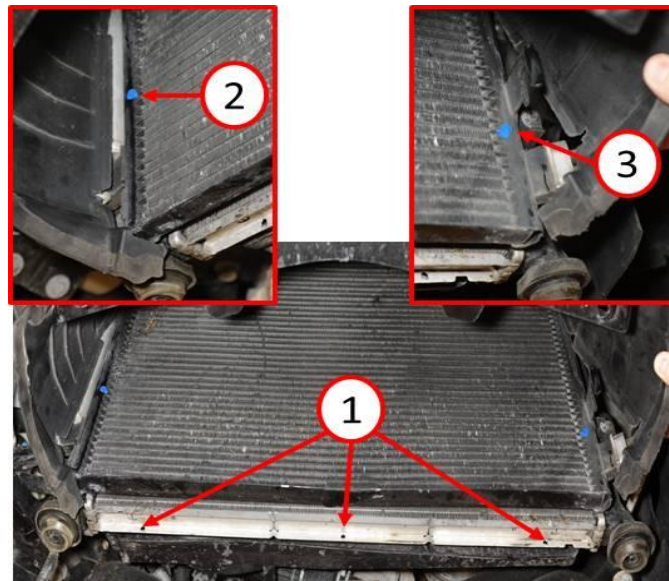

Fig. 2 Condensor Preperation
6. Carefully remove the lower plastic shroud that covers the bottom gap between the radiator and condenser by using a pick to pull the cover hole away from the retaining tabs (1) along the edge (Fig. 2).
7. Viewing the condenser from the front of the vehicle count 12 rows up the passenger side of the condenser from the bottom of the condenser core and mark (2) the location of the 12th row (Fig. 2).
8. Measure out from the passenger side edge (2) of the condenser core 2-1/8"(54mm) and mark the location in the 12th row of the condenser.
9. Viewing the condenser from the front of the vehicle count 8 rows up the driver side of the condenser from the bottom of the condenser core and mark (3) the location of the 8th row (Fig. 2).
10. Measure out from the passenger side edge (2) of the condenser core 21"(532mm) and mark the location in the 8th row of the condenser.